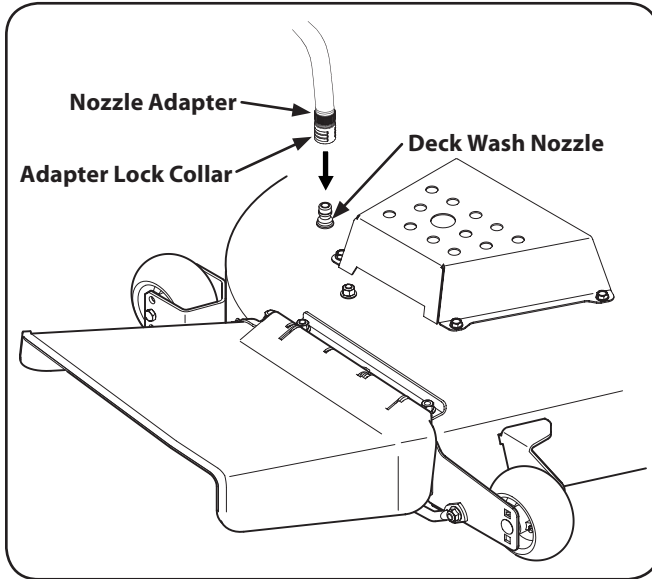

Figure 6-2
- Attach the hose coupler to the water port on your decks surface. See Figure 6-2.